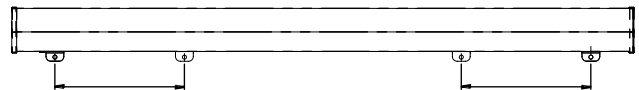

Figure 27 - Position the brackets
3. Slide the brackets to the distance measured from the display. Double check by holding the fixture over the flex arms. Retighten the nuts (*figure 27*).